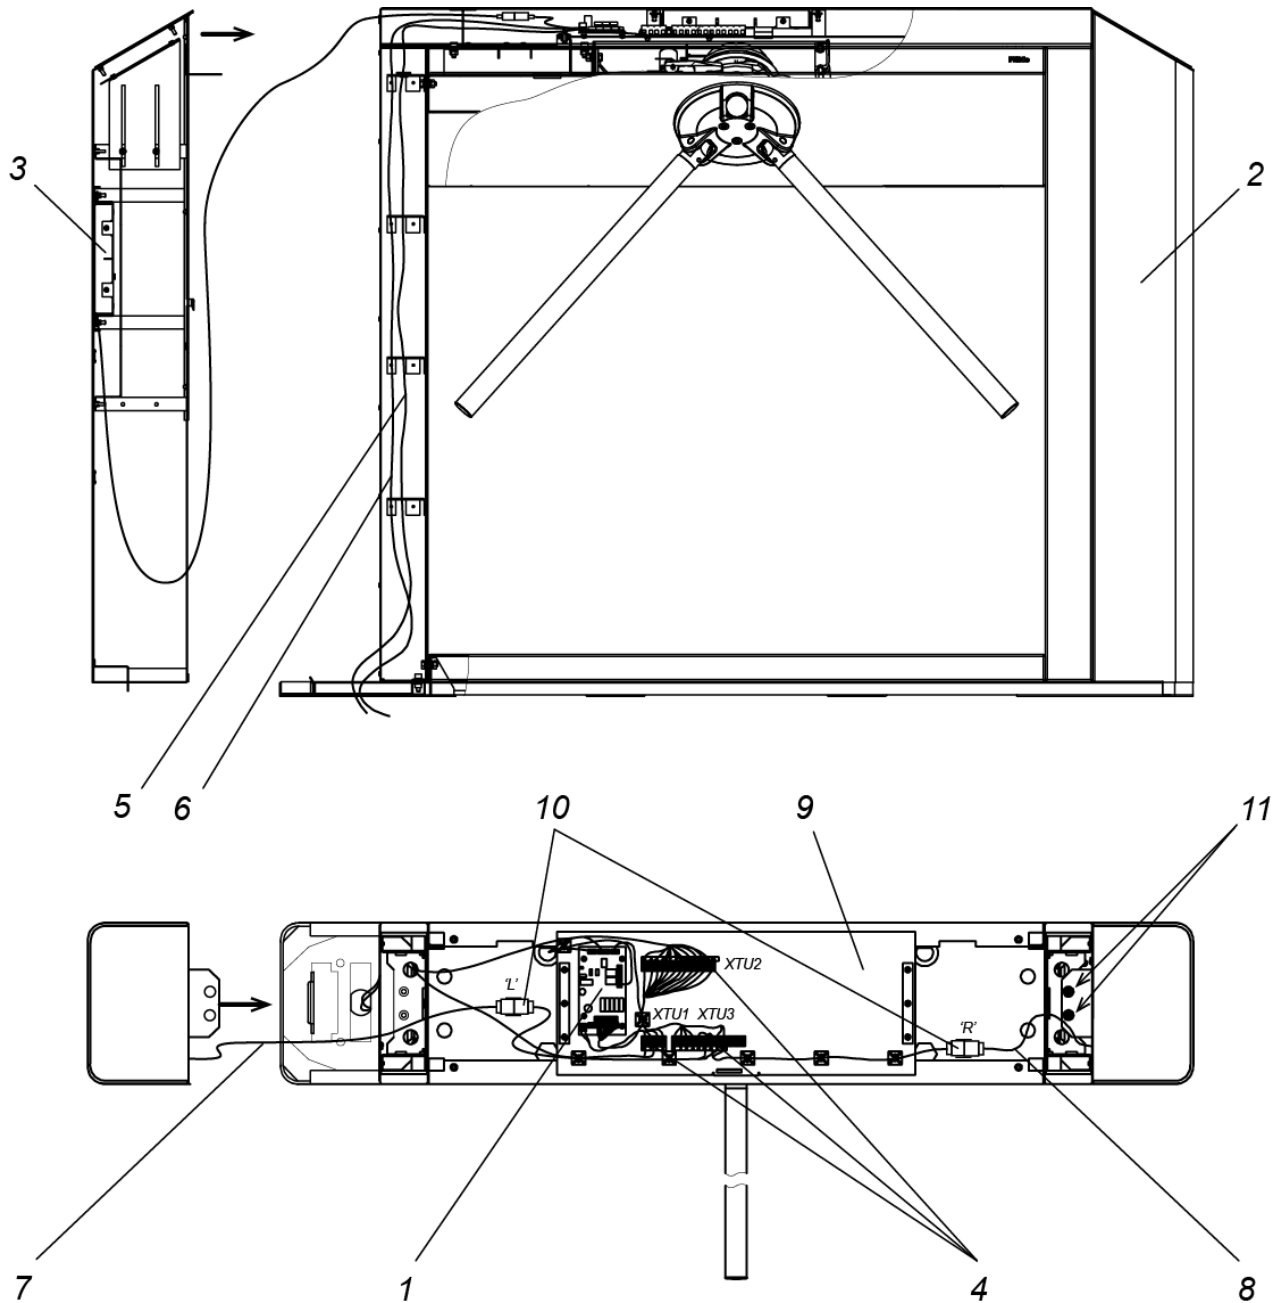

Figure 16. Cable routing inside the housing
3. If it is necessary to lay cables under the floor surface, prepare a cable duct in the floor so that it leads to the area where these cables enter the turnstile housing. Cable routing inside the turnstile housing is shown in Fig. 16.
5. Unpack the main housing of the turnstile (box No. 1). Remove the main top cover of the turnstile (2) in accordance with Section 6.
7. Connect the power cable (9) to the **XTU1** remote terminal block according to the connection layout.
8. If necessary, install the board of the external ACS controller inside the turnstile housing on the bracket (9, Fig. 16) and connect it to the CLB board (ref. Section 8.5).
9. Connect the RC-panel cable (10) or WRC receiver to the **XTU2** remote terminal block (ref. Section 8.5) or external ACS controller (ref. the controller's Operation Manual).
12. Unpack the side modules (6 or 13) (box No.2) and the side covers (8) (packed separately).
- fix the side module using two M5×12 screws with two washers (11 in Fig. 16; each with a spring and enlarged flat washer); the screws and washers are included in the main housing delivery set;
- connect the indication cable connector from the side module to the corresponding (right "R" or left "L") indication cable connector of the main housing (10 in Fig.16).
17. Reinstall the main cover (2) in reverse order to removal, see Section 6.